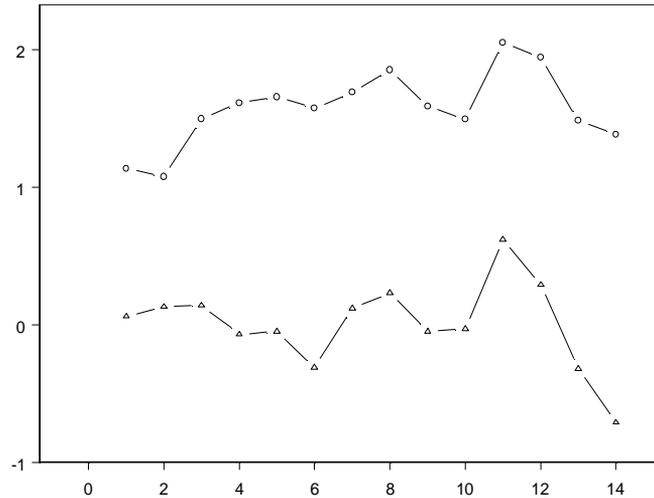
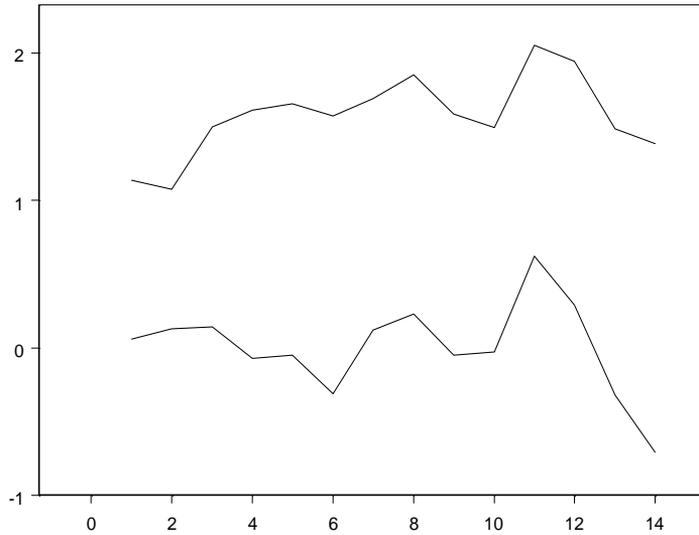

Figure 3.23: *Line with isolated points plots of tel.gain and diff.hstart.*
Figure 3.24: *Y series lines plot of tel.gain and diff.hstart.*
3. While pressing the SHIFT key, click the **Isolated Points** button  on the **Plots 2D** palette. The resulting graph is shown in Figure 3.23.
2. Click the **Y Series Lines** button  on the **Plots 2D** palette. The resulting graph, shown in Figure 3.24 below, is very similar to Figure 3.23.